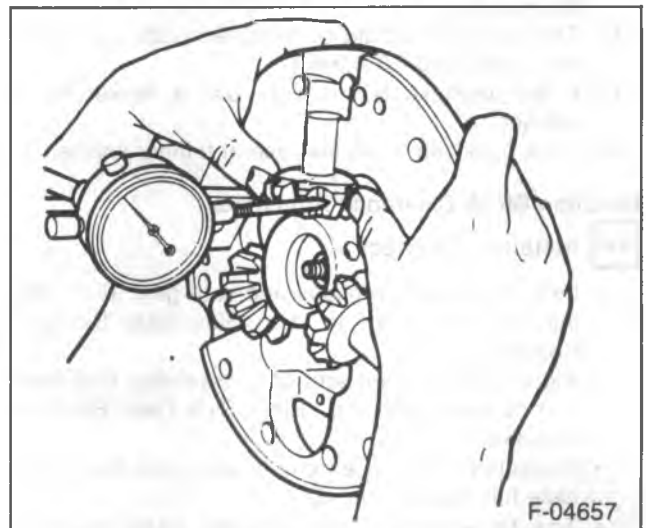

Figure 15—Measuring Backlash
6. Mount a dial indicator on the case half face using a magnetic base (figure 15).
8. Mount a dial indicator on the case half face using a magnetic base (figure 15).